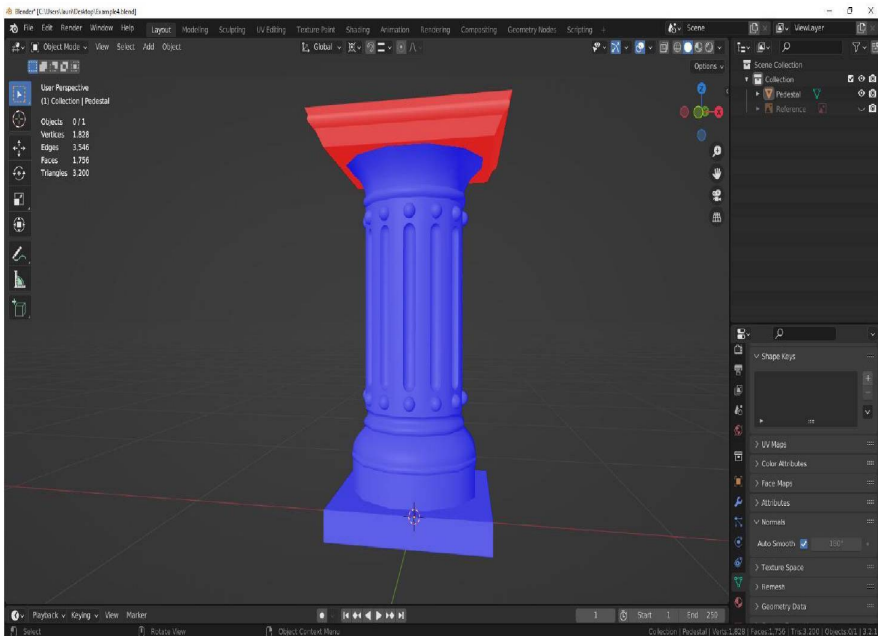

Figure 4.38: Pedestal with Face Normals overlay enabled, showing two sections with inverted normals
3. If, after applying all transforms, any normals remain inverted as shown in *Figure 4.38*, re-enter **Edit Mode**, unhide all via **Alt + H**, clear selection, select all via **A**, then press **Alt + N** and choose to Recalculate Outside.